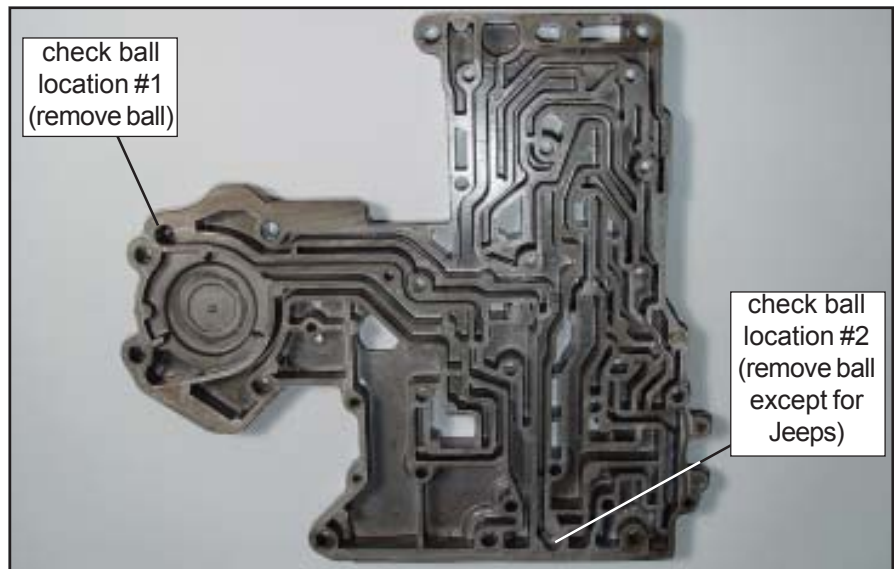

Figure 7
STEP 11. Remove check balls from the check ball location #1 and check ball location #2 from the transfer plate (See Figure 7). EXCEPTION FOR JEEPS: DO NOT remove check ball from check ball location #2.